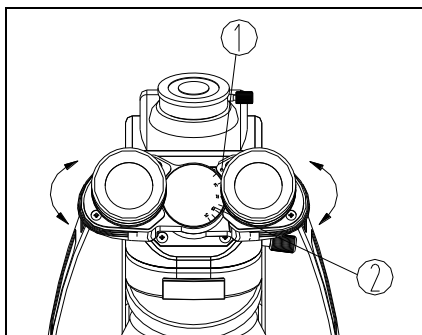

Fig. 14
"0" (1) on the eyepiece base points to the scale (2) of interpupillary indication, which means the value of interpupillary distance (see Fig. 14).